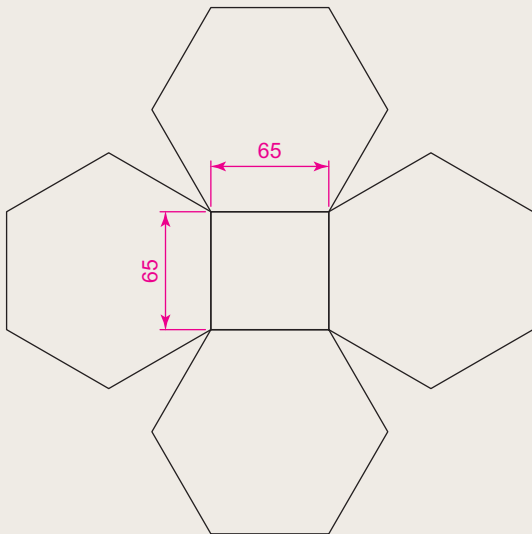

Fig. 3.50 Exercise 6
6. Fig. 3.50 shows a rectangle in the form of a square with hexagons along each edge. Using the **Dimensions** prompt of the **Rectangle** tool construct the square. Then, using the **Edge** prompt of the **Polygon** tool, add the four hexagons. Use the **Object Snap endpoint** to ensure the polygons are in their exact positions.